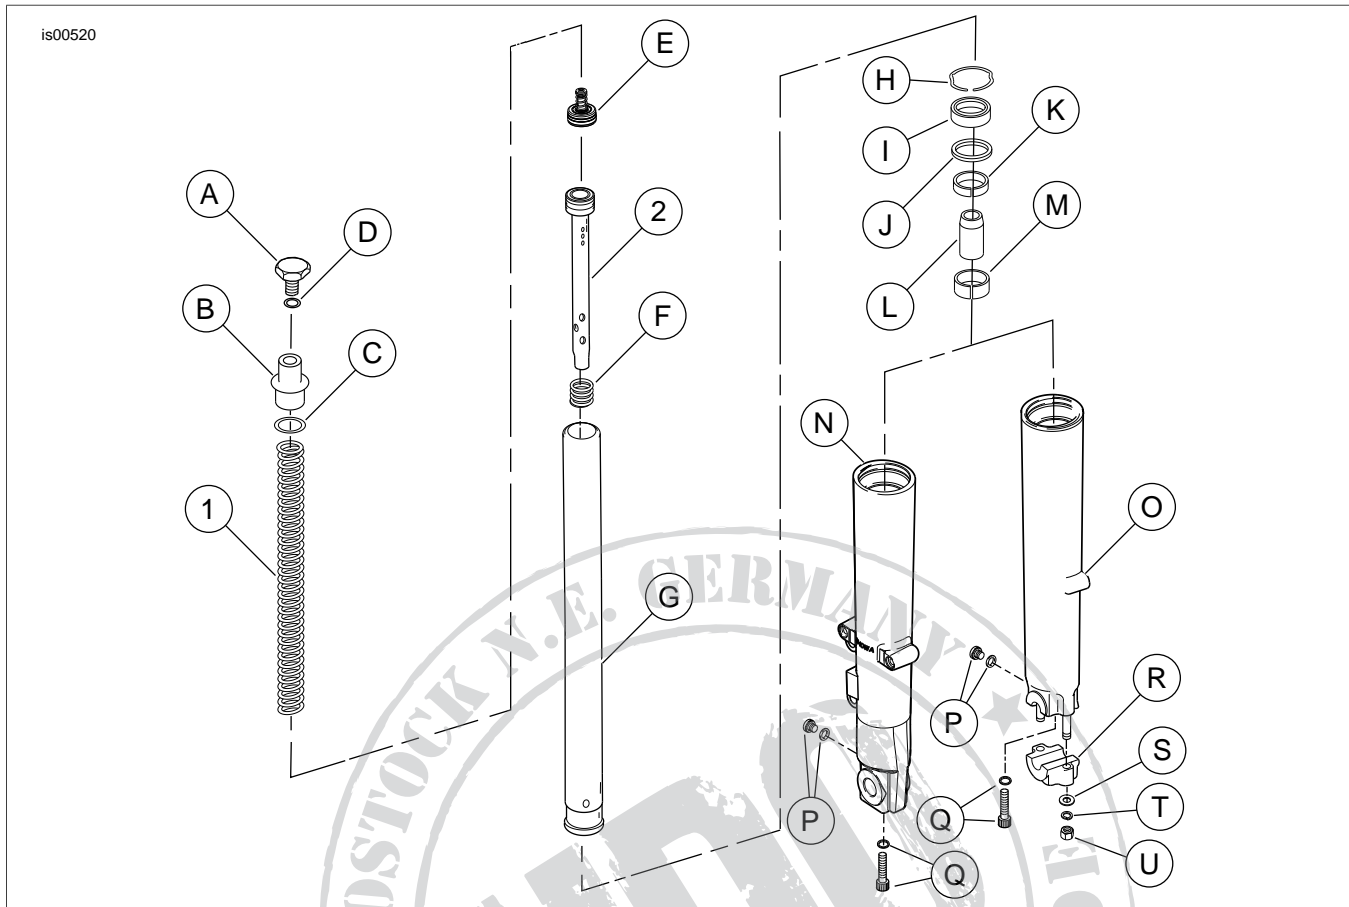

Figure 6. Service Parts for Touring Front Lowering Kit
See Figure 6 and Table 1.
1. See Figure 6. Remove nuts (U), lockwashers (T), flat washers (S) and axle holder (R) from studs at end of fork slider.
Refer to Figure 6 for Steps 3-17.
Refer to Figure 6 for the following procedure.